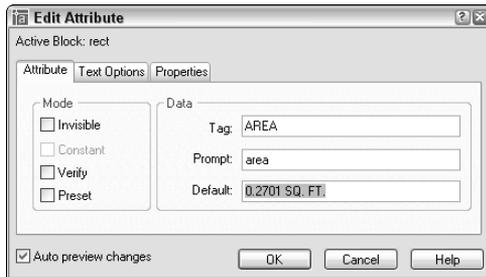

Figure 18-21: The Edit Attribute dialog box.
- ♦ **Edit the attributes, including prompt, default, text display, and properties.** Click Edit to open the Edit Attribute dialog box, shown in Figure 18-21.